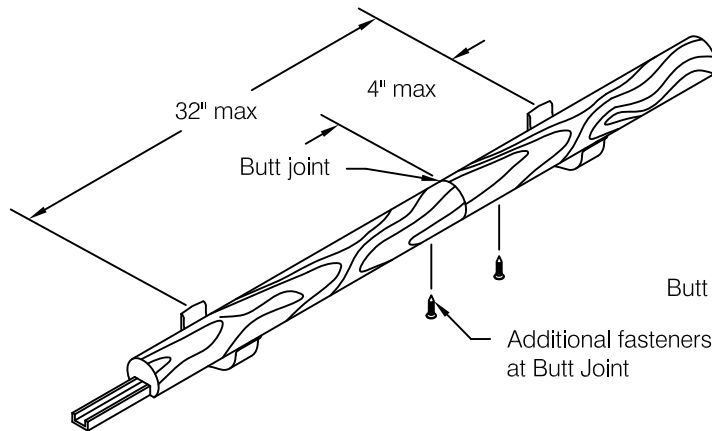
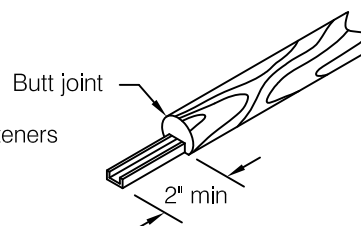

fig 8
fig 9
- Step 10:** Layout and cut wood rail to fit between previously mounted wall return and corner accessories. Cut handrail so butt joints in wood occur no more than 4" from a mounting bracket, see **fig 8**, and a minimum of 2" from a joint in the aluminum channel, see **fig 9**. Add an additional countersunk hole and #8 fastener 3/4" to 1 1/4" in on each side of a handrail butt joint, see **fig 8**.
- Step 12:** Position handrail over aluminum and drill pilot holes for fasteners as described in **step 8**. Secure handrail in place with #8 flat head and #12 pan head fasteners provided. Install handrail to span aluminum alignment channel butt joints, see **fig 9**.